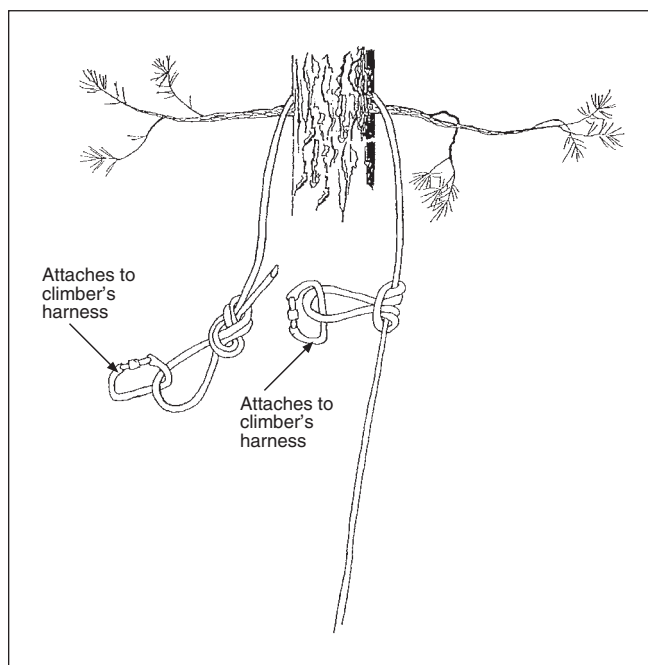

Figure 6p—Rigging the Prusik system, continuous loop method.
- (1) Use rope to form a continuous loop with at least a 5,400-pound breaking strength (see section 8.4). The loop should be made from rope that is the same diameter or slightly smaller than the climbing line and that is about as stiff or slightly softer than the climbing line.
- (2) Pass the climbing line around the tree, and secure the end of the rope to the seat sling tie-in point(s) on the safety harness.
- (3) Tie the continuous loop into a Prusik knot on the climbing line as shown in figure 6p. Use a locking carabiner to secure the loop to the seat sling tie-in point(s) on the safety harness. **NOTE:** If the climbing harness has two tie-in points (for example, the Sky Genie harness), you must secure both the climbing line and the Prusik loop to each tie-in point.